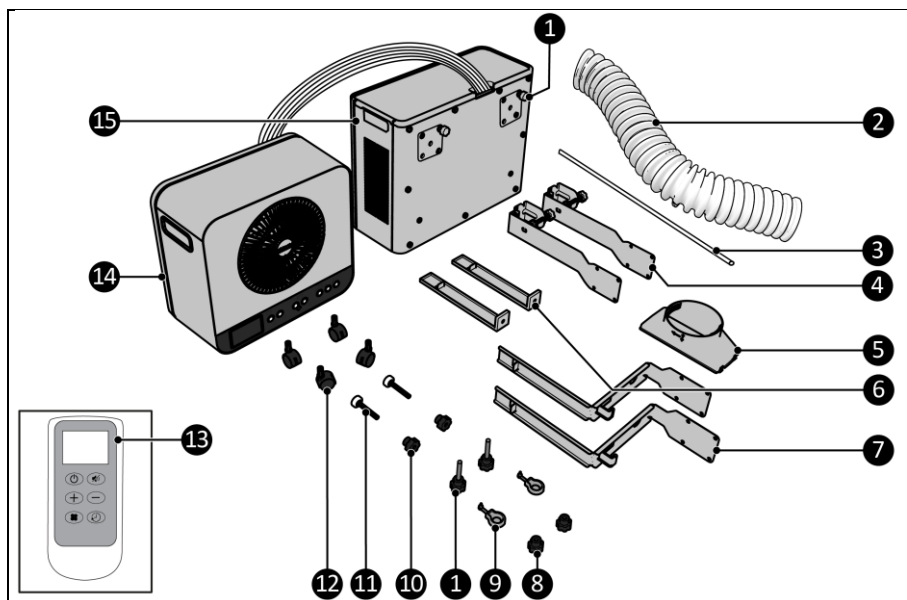
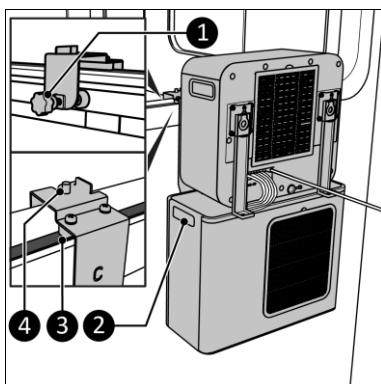

Figure 2
Figure 9
This EUROM device is an easy-to-use portable caravan and home air-conditioner (Figure 2). It is suitable for use in a caravan or motorhome and for indoor home use. The device provides continuous cooling and produces condensed water.
9. Place the complete unit in the window using the side handles of the outdoor unit (Figure 9, pos. 2). Make sure the gray blocks (Figure 9, pos. 3) are in the window seal.
10. Tighten the bolts (Figure 9, pos. 1) hand tight on the caravan.
11. Make sure you have the screw caps (Figure 2, pos. 8) within reach for the threads on the bracket (Figure 9, pos. 4).